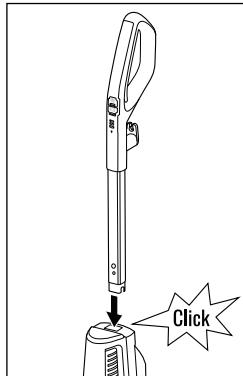

Fig. 1
- ◆ Slide the hand element ① into the opening on the top of the appliance until the hand element ① clicks into the opening (see fig. 1).